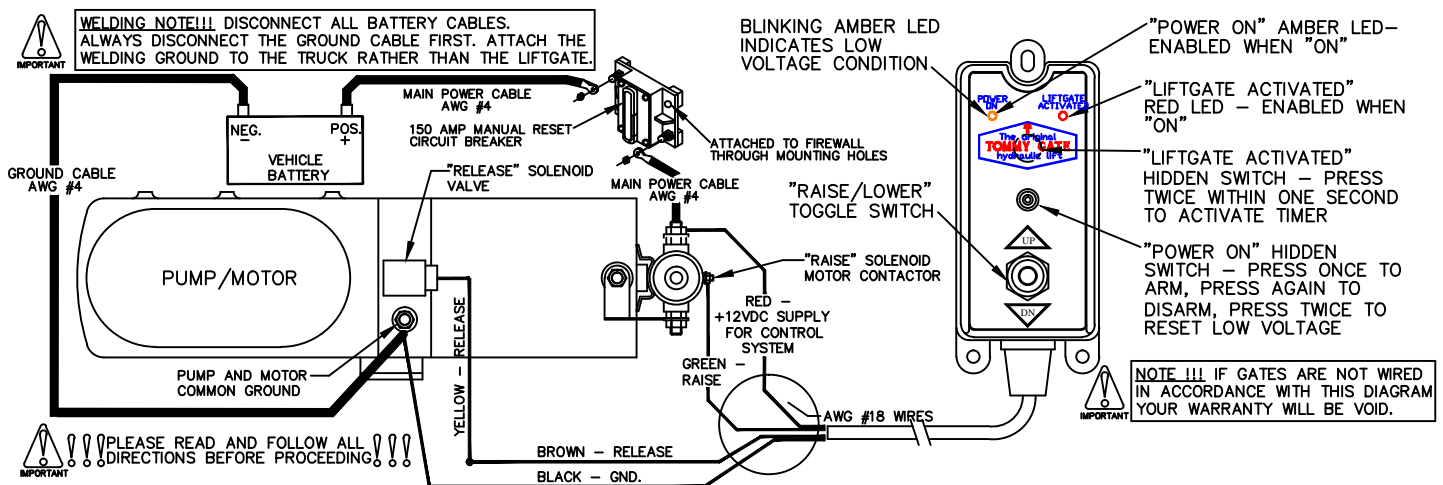

Figure 12: Wiring diagram.
2. **Push** the hidden "Power On" switch (Figure 12). The amber "Power On" LED will illuminate.
12. **Connect** the circuit breaker and battery as outlined in the *Tommy Gate Recommended Electrical Wiring Guidelines* and wiring diagram (Figure 12).